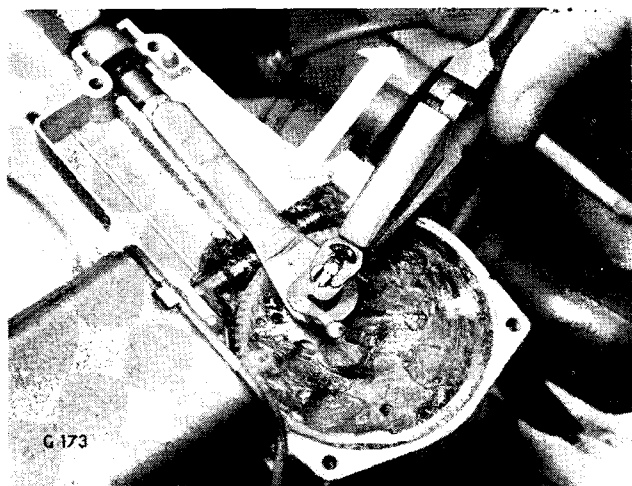

Fig. 89. Crank pin spring clip
3. Remove crank pin spring clip by withdrawing sideways as shown on Fig. 89.
3. Fit crank pin spring clip by inserting sideways as shown on Fig. 89.